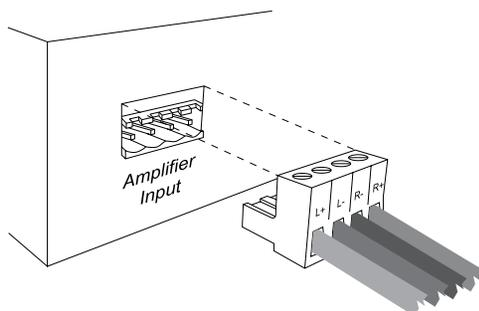

Figure 2
4. Install the connectors to the SP8-50 / SP8-200 (**Figure 2**).